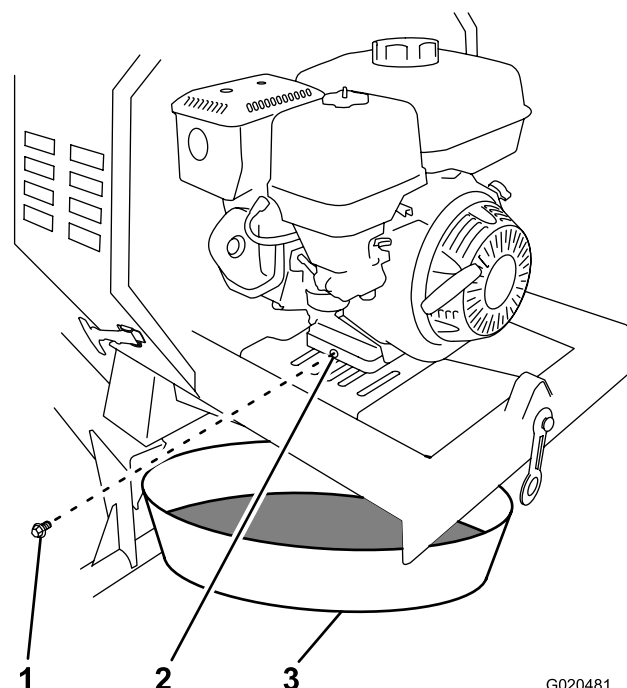

Figure 43
3. Place a drain pan under the oil drain hole of the engine (Figure 43).
4. Remove the drain plug and catch the oil in the oil drain pan (Figure 43).
5. When the oil has drained completely, install the drain plug with a new washer (Figure 43).